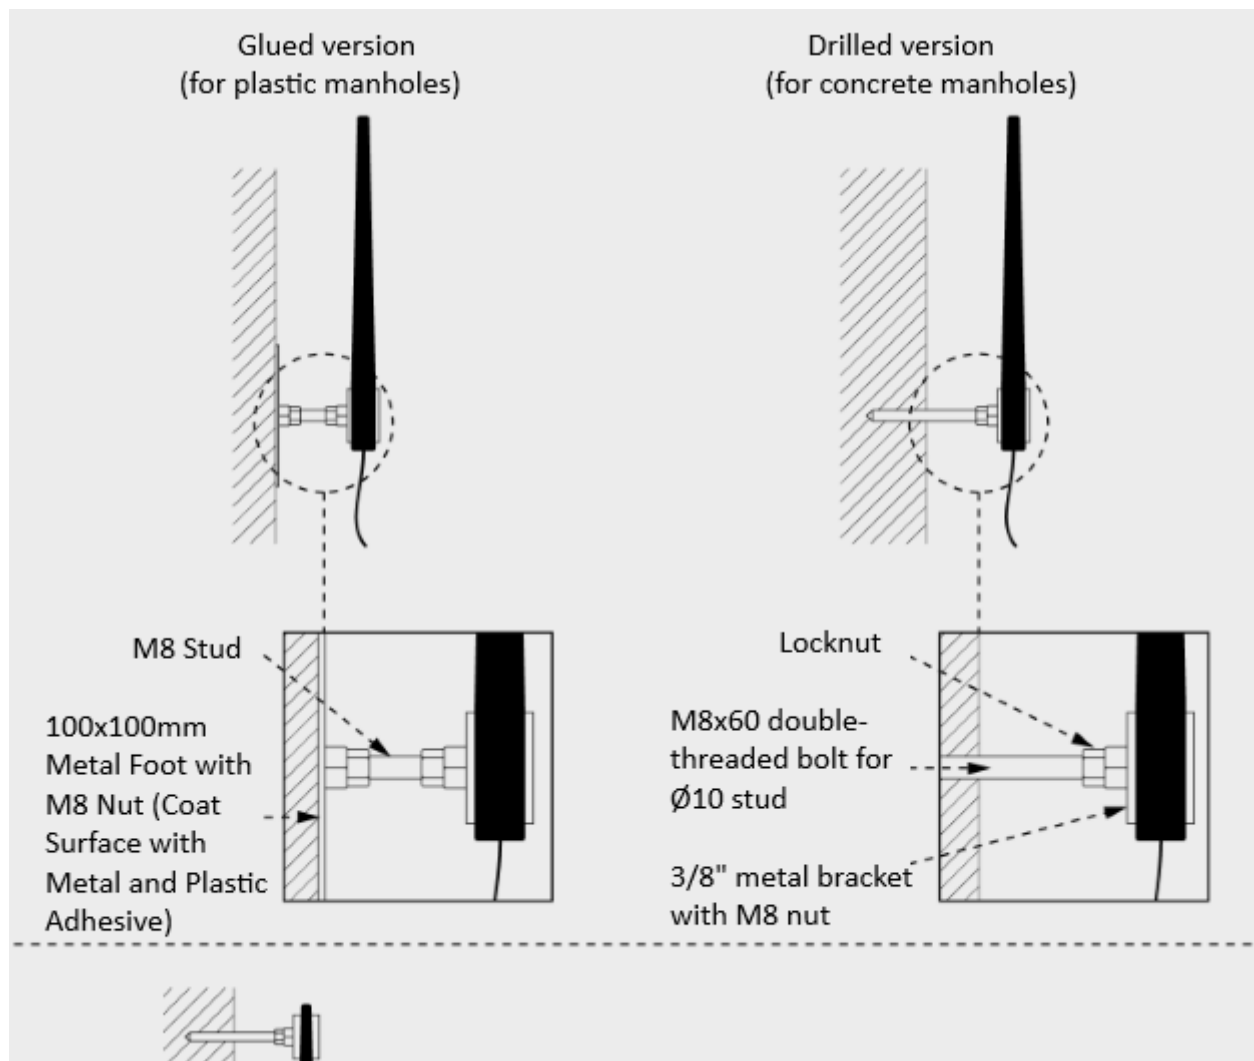

Fig. 35. Options for installing an external antenna.
1. Install the external antenna as shown in Figure 35.